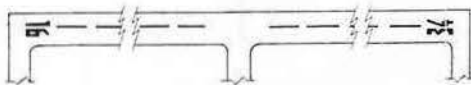

Figure 1
1. The numbers 16 and 34 on the approach ends of the runway illustrated in Figure 1 indicate that the runway is oriented approximately